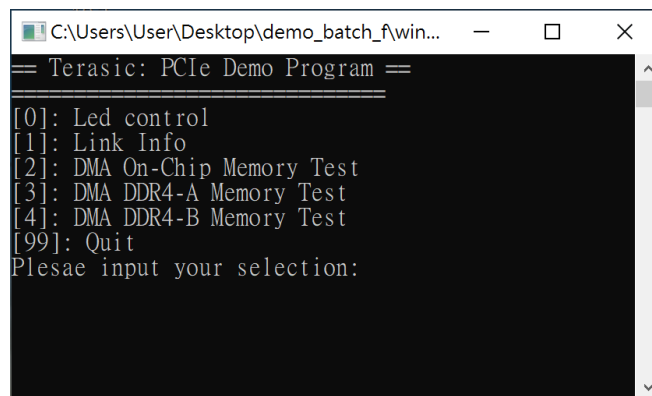

Figure 3-10 Screenshot of Program Menu
7. Goto windows_app folder, execute PCIE_DDR4.exe. A menu will appear as shown in **Figure 3-10**.